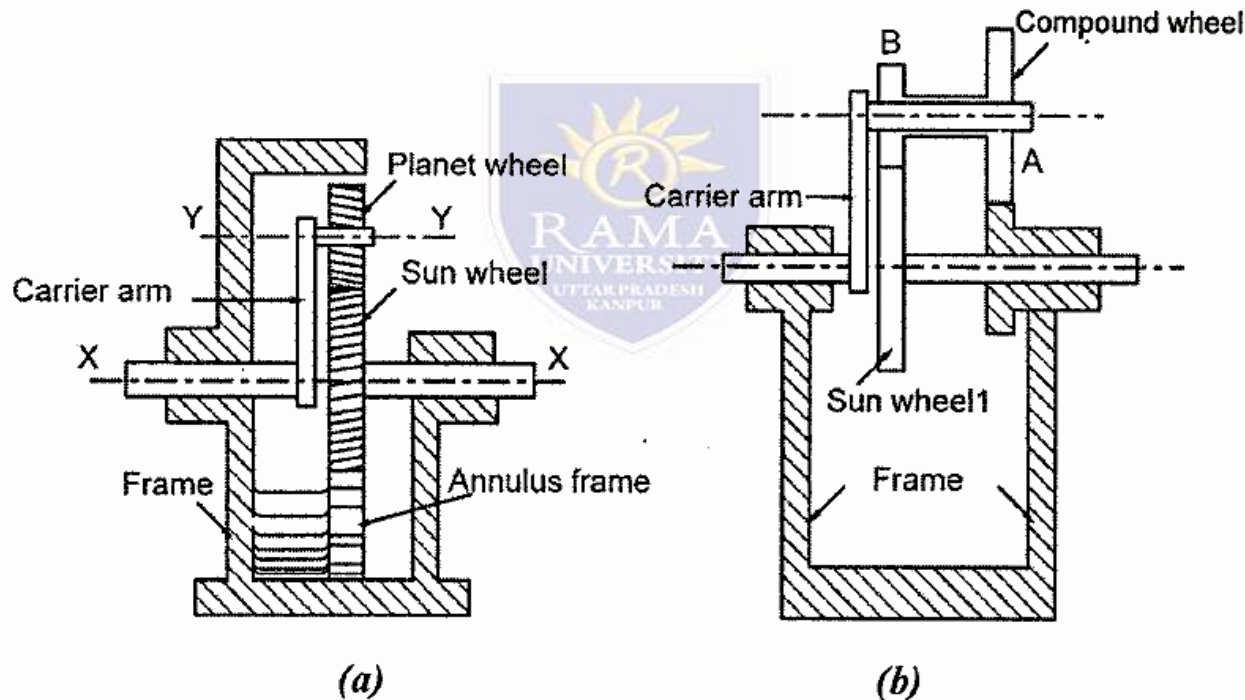

Figure 3.27 Epicyclic gear box
- In ordinary gearing, the axes of various gears are fixed. These gears are simply rotated about their axes. In the case of epicyclic gearing, at least one of the gears not only rotates about its own axis but also rotates about some other axes. The two arrangements of the epicyclic gear trains are shown in Figure 3.27. In Figure 3.27 (a) arrangements, a spur pinion called sun wheel is an integral part of shaft which is made to rotate freely about its own axis XsX . The pinion shaft is mounted on bearings in the frame. Also, a crankshaft or carrier arm is also made to rotate freely about the same axis $x-x$. This arm is connected with a spur pinion called planet wheel by crankpin. The planet wheel is freely to revolve about its own axis $y-Y$. When the carrier arm is rotated on its bearings, the planet wheel will also rotate bodily about the axis XsX . The planet wheel is meshed with the spur pinion and also meshed with an internally toothed ring called annulus. The annulus is one part of the frame as a fixed unit. The annulus is circular and concentric with the axis $X-X$. It is an epicyclic train of gearing. It provides a definite and fixed speed or gear ratio between the shaft attached to the sun wheel and the shaft of the carrier arm.
- In Figure 3.27 (b), the sun wheel (1) is a part of integral shaft which is freely to rotate about its axis in the frame.
- The portion B of the compound planet wheel is meshed with the sun wheel (1). When the carrier arm shaft is turned, the shaft attached to the sun wheel (1) will also be driven in the same direction as the carrier arm rotates. But its speed is low.